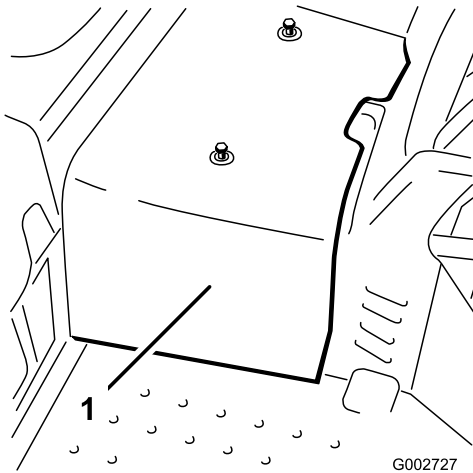

Figure 32
2. Remove the 2 screws securing the center shroud to the machine and remove the shroud (Figure 32).